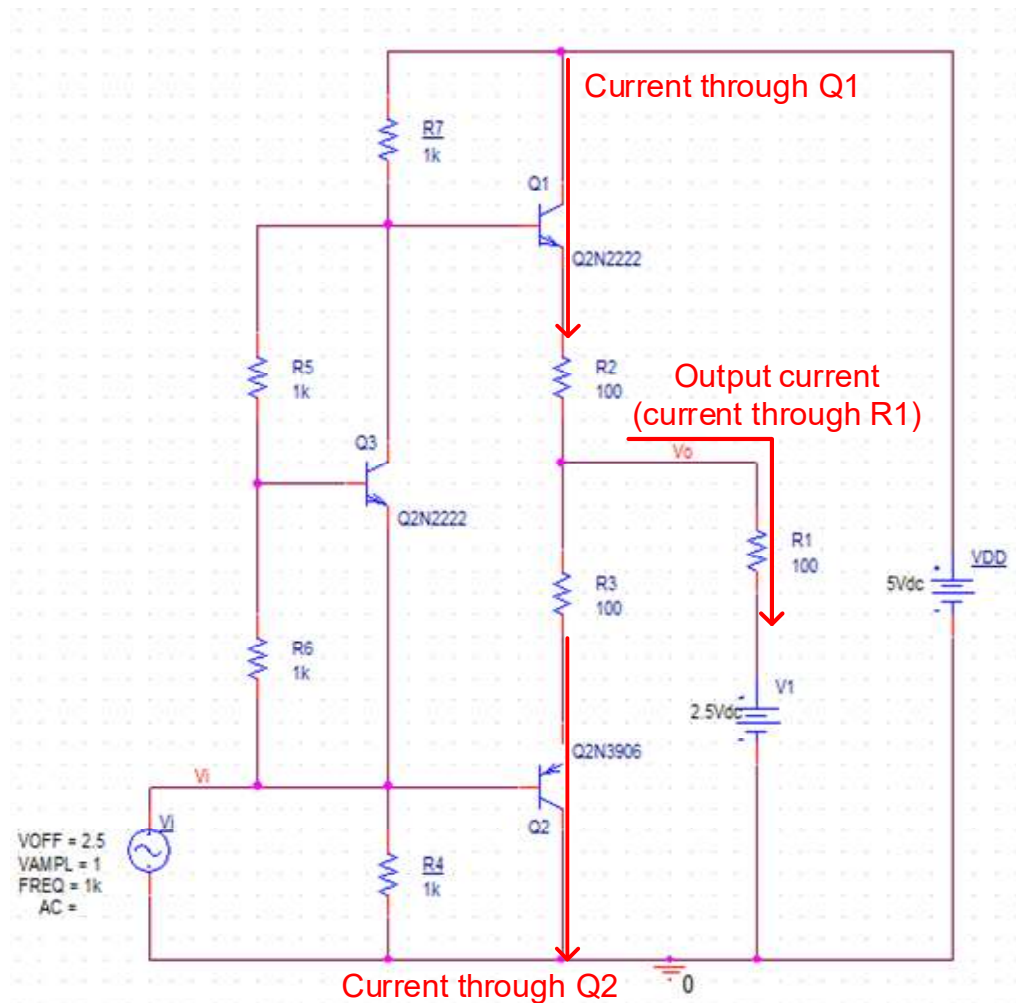

Fig. 10.8 Class-AB output stage for SPICE simulation
- (1) Use PSPICE to verify the characteristics of class-AB output stage as shown in Fig. 10.8. Please show
- (2) Briefly describes the characteristics of class-AB output stage using these waveforms (e.g. without crossover distortion).